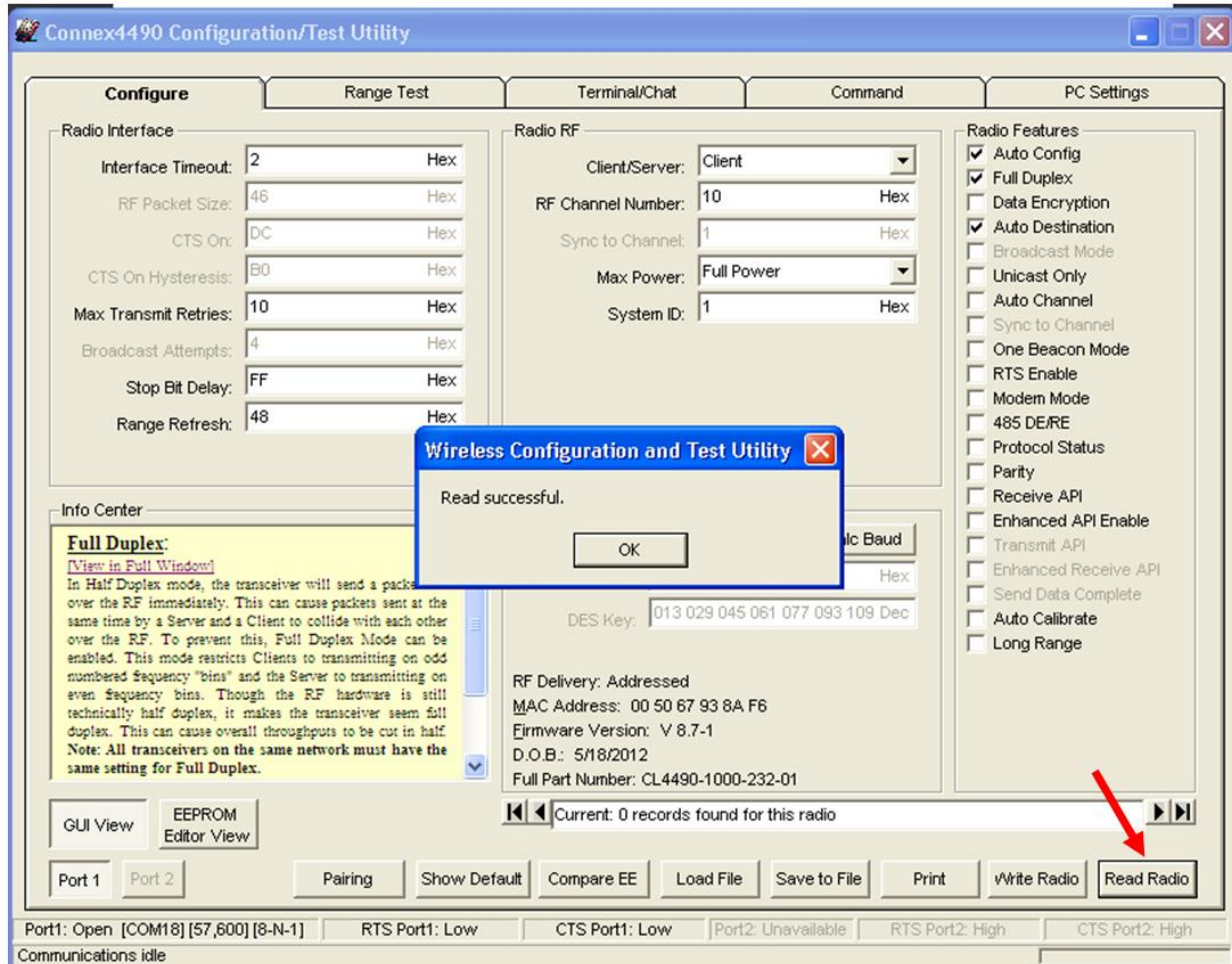

Figure 10: Configure tab - Read Successful
- Go to the Configure tab and click the **Read Radio** button at the bottom right of the screen. A message stating "Read Successful" should appear after a successful read (Figure 10).